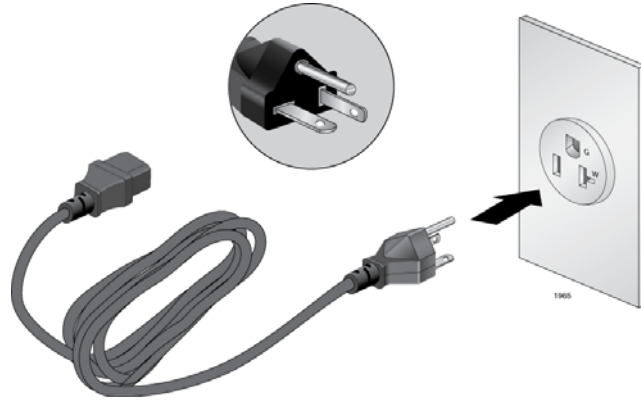

Figure 33. 100 - 125 VAC 125 V NEMA 5-20 Plug and Receptacle
- The power cords provided with the AT-SBxPWRSYS1 and AT-SBxPWRPOE1 AC Power Supplies for 100-125 VAC installations have 20 Amp, 125 V NEMA 5-20P plugs. The plugs are only compatible with NEMA 5-20R receptacles. See Figure 33 on page 103.